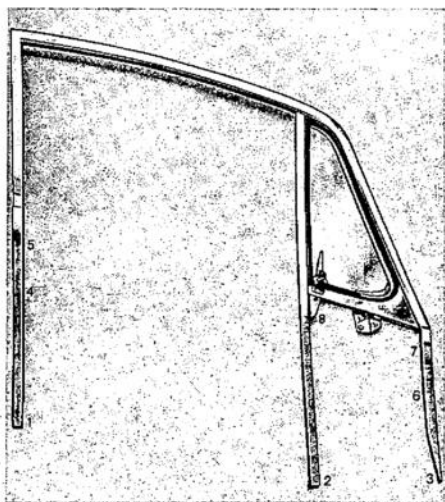

Fig. 32
5. To fit the door window frame crank the door window glass to half-way position and push the window frame into the door from above. The glass will slide in the velvet/rubber molding of the window frame. Adjust window frame and screw in position in the sequence shown in Fig. 32.